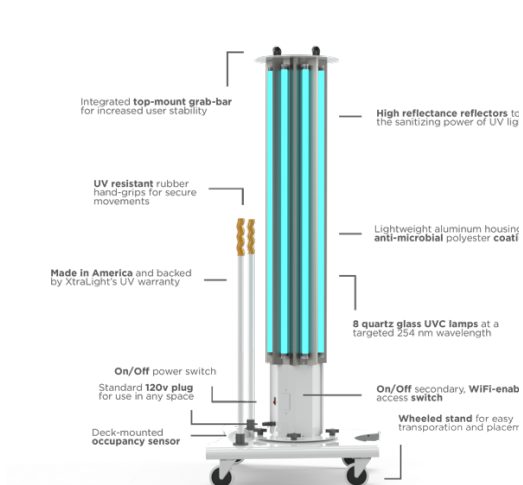

Figure 3
7. The WiFi enabled smart switch allows for remote system control through app connectivity. The app is compatible with both Android and IOS **Figure 3** and can be downloaded at my.leviton.com, Google Play, or the Apple Store. See **Figure 4** for app setup instructions. Download the full instruction manual located on our website.